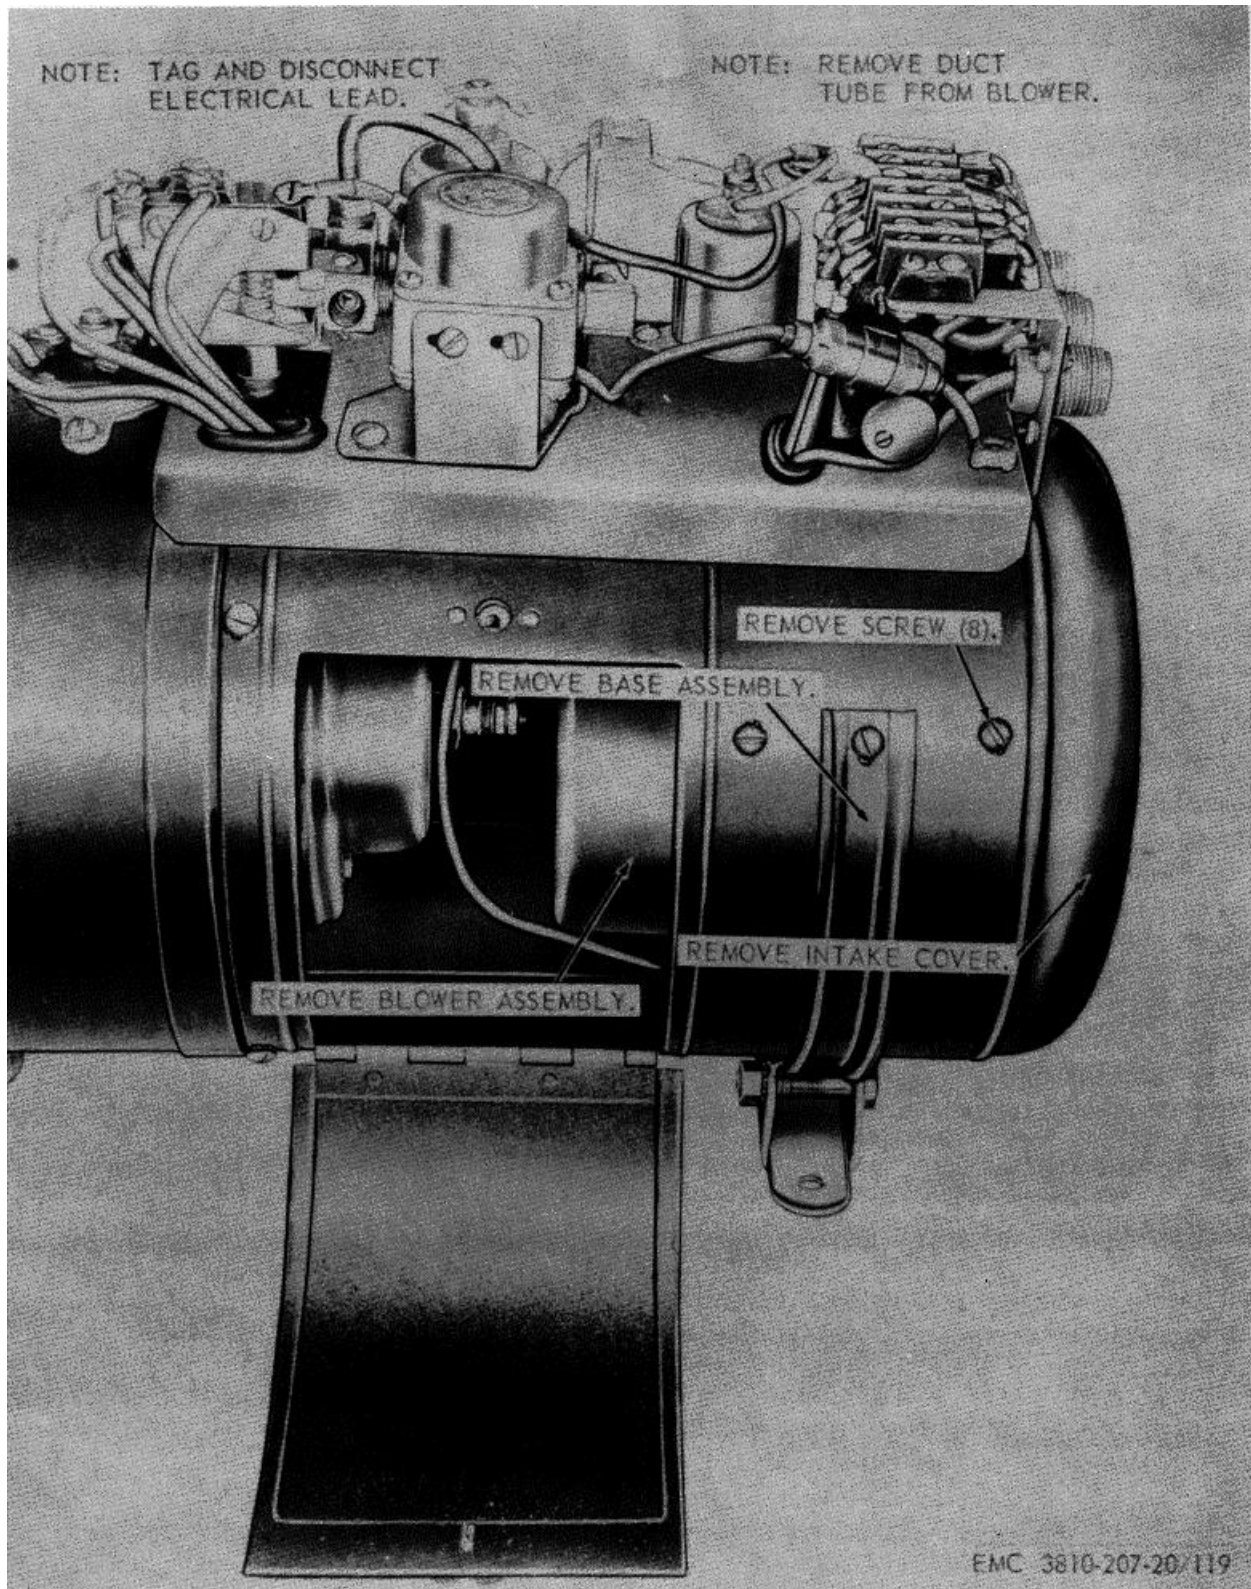

Figure 119. Blower assembly, removal and installation.
- (1) Remove the crane heater assembly (par. 184).
- (2) Remove the crane heater blower assembly as instructed on figure 119.
- (1) Install the crane heater blower assembly as illustrated on figure 119.
- (2) Install the crane heater assembly (par. 184).